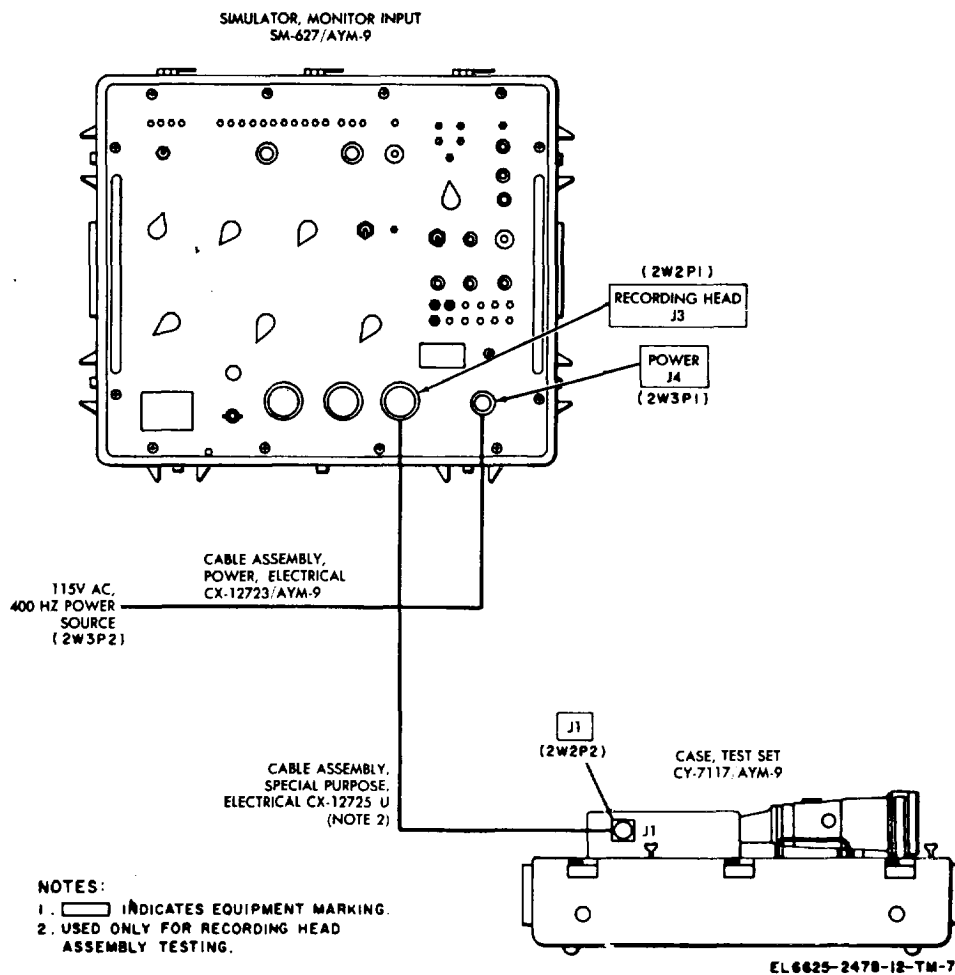

Figure 3-3. Test Set Control Monitor-Recording Head AN/A YM-9, cable interconnection diagram.
of Equipment Before placing Test Set, Control Monitor-Recording Head AN/AYM-9 in operation, perform a go, no-go check to verify that the equipment is operable. Connect the equipment as shown in figure 3-3 and perform the procedures of paragraphs 3-5 and 3-4 to accomplish this check.
(6) On the SM-627/AYM-9, set switches to positions specified in paragraph 3-5.
(7) Connect connector P2 of Cable Assembly, Special Purpose, Electrical CX-2725/U to external side of connector J1 on CY-7117/AYM-9. Connect connector P1 to connector J3 on SM-627/AYM-9 (fig. 3-3).